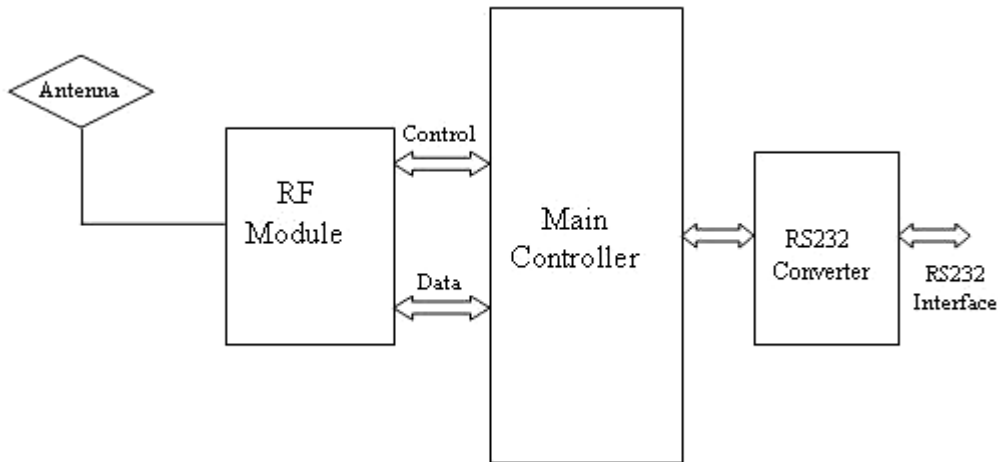

Figure 1: RDSRF-232-T8FZ Block Diagram
- 1) Change the RDSRF-232-T8FZ-UC to configuration mode by shorting pins 2 and 3 as shown in figure1.